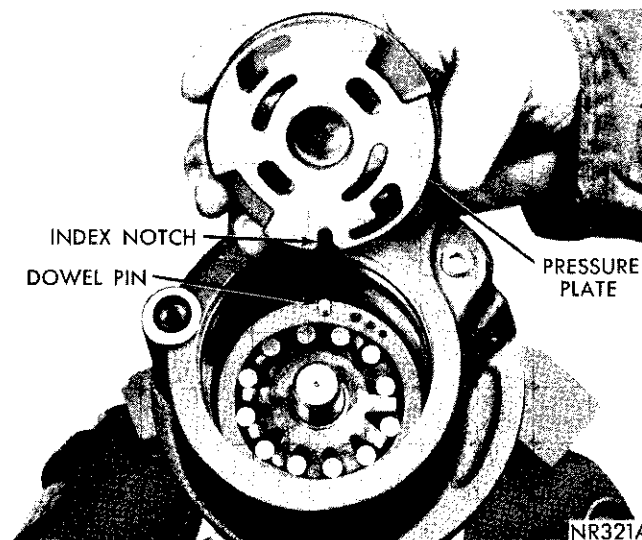

Fig. 30—Installing Pressure Plate
(11) Install new "O" ring on pressure plate, lubricate with power steering fluid and carefully position in pump bore. Before seating plate in pump bore, align index notch in plate with dowel pin and oil passage slot in plate with number drill. Seat plate on cam ring using a clean 1-1/8 inch socket and plastic hammer (Fig. 30 and 31). Remove drill. Inspect pressure plate at both oil passage slots to insure that plate is squarely seated on cam ring end face.
(12) Place large coil spring over raised portion of installed pressure plate.
(13) Position end cover, lip edge UP, over spring. Press end cover down below retaining ring groove with thumb and install ring making sure it is seated in groove. Light tapping on the end cover may be necessary to insure that the end cover chamfer is squarely seated against snap ring.
(14) Replace reservoir mounting bolt seal.
(15) Lubricate flow control valve with power steering fluid and insert valve spring and valve into bore. (Spring first then hex plug end of valve). Install new "O" ring on bore plug, lubricate with power steering